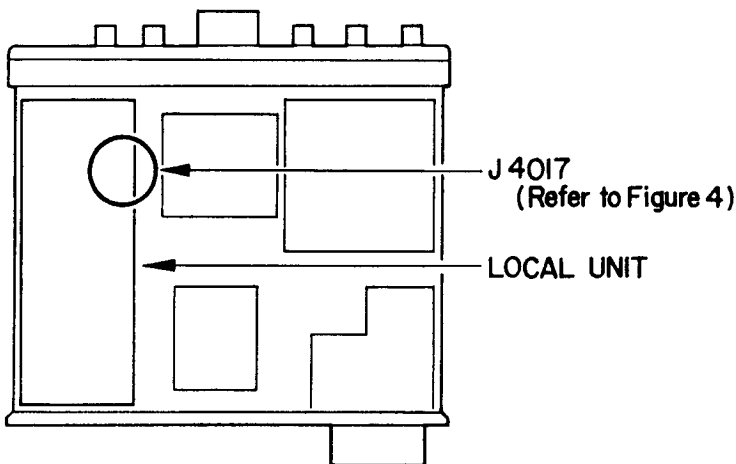

Figure 3 BOTTOM VIEW
2. Referring to Figures 3 and 4, cut the white wire connected to J4017 on the Local Unit, and wrap the end of the white wire with insulating tape to prevent it from shorting to other parts.